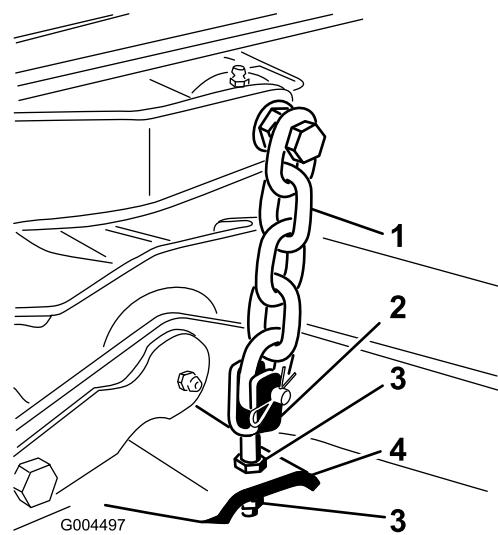

Figure 79
- Adjust the jam nuts securing the rear deck yokes/chains to raise the rear of the deck so that the blade pitch is set to 5/16 inch (8 mm) (Figure 79).